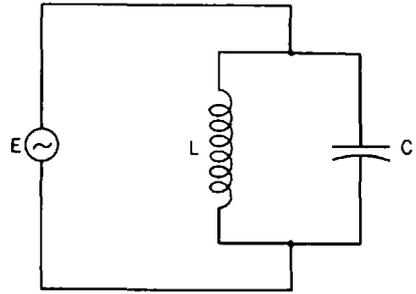

Fig. 35-17. The parallel resonant circuit with inductance ( $L$ ) and capacitance ( $C$ ) in parallel.
**Parallel Resonant Circuits.** In addition to the series form, the resonant circuit may assume a parallel form. This is shown in Figure 35-17. We call this a *parallel resonant circuit*. In a series circuit, the current is uniform, and the voltages across the circuit elements are added vectorially to yield the total potential drop across the circuit. In a parallel circuit, however, the voltage across each branch is the same, and the separate branch currents are added to yield the total current through the circuit.
The current flowing from the alternating-current generator in Figure 35-17 divides when it comes to the junction of the two branches of the circuit. Part of the current flows through the inductive branch and part through the capacitive branch. The amount of current that will flow through each branch depends upon the impedance of each. The greater proportion of the current will flow through the branch offering the smaller impedance.